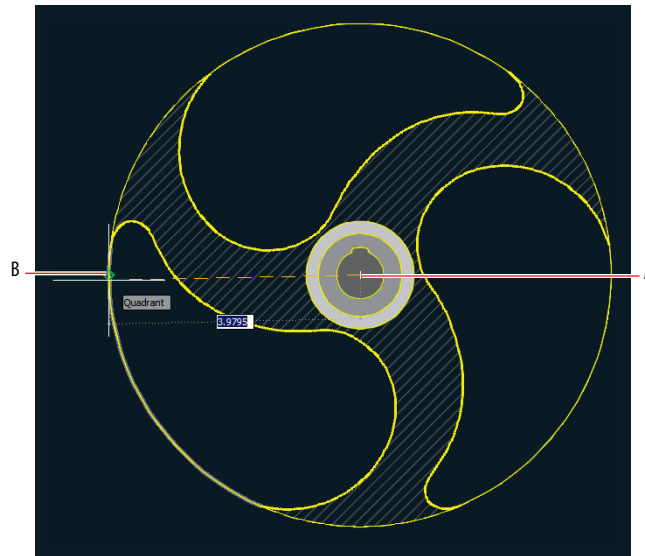

FIGURE 8.8 Drawing a circle
2. Shift+right-click, and choose Node from the context menu. Click point A, shown in Figure 8.8, as the center point. Type **QUA** (for Quadrant), and press Enter. Click point B, also shown in Figure 8.8, to set the inner circle's radius. The **CIRCLE** command ends.